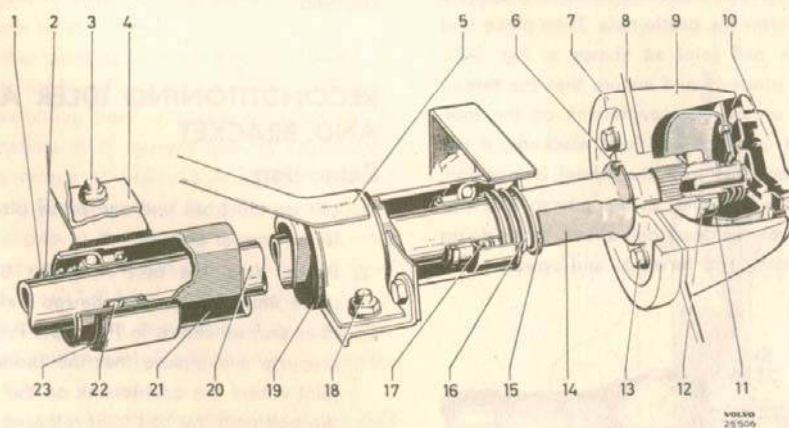

Fig. 6-30. Journaling of steering shaft
2. Unscrew the bolts (3, Fig. 6-30) for the lower
4. Check that the rubber bushings (19 and 23) for the jacket tube attachment are intact and that the locking ring (1) is located in its groove. Then fit the jacket tube and other parts in the reverse order to removing and as shown in Fig. 6-30. Tighten the steering wheel nut to a torque of 20–30 lb.ft. (2.8–4.2 kgm) and do not forget to lock it.